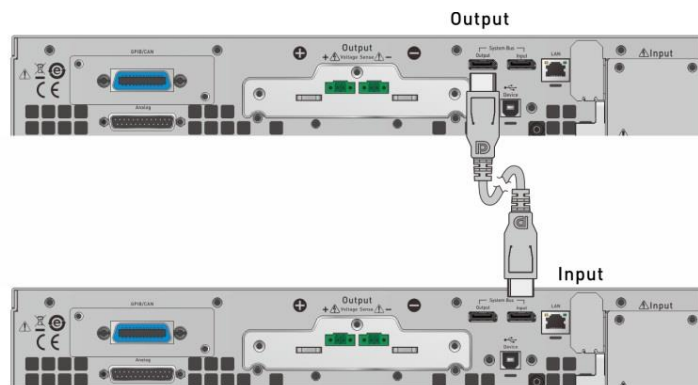
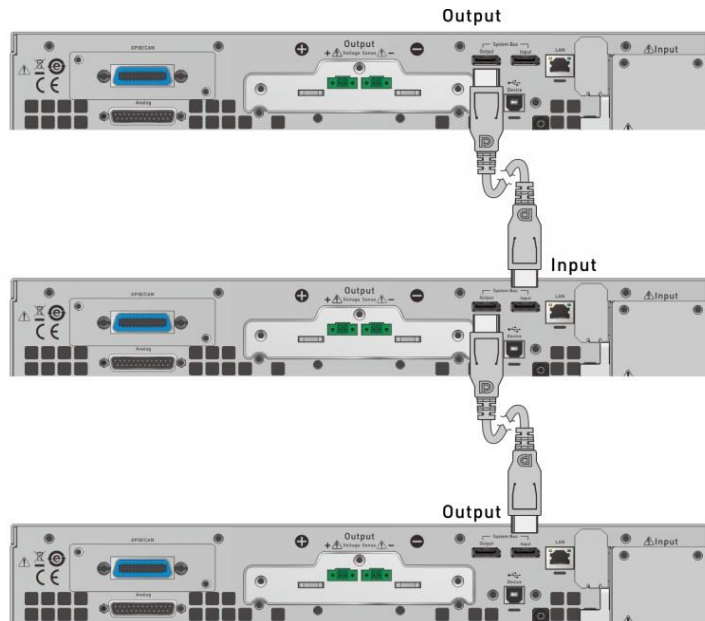

Figure 3-72
Figure 3-73
1. When 2 DC power supplies are connected in parallel, the DisplayPort connector on the rear panel must be connected as shown in Figure 3-72.
2. When 3 DC power supplies are connected in parallel for operation, the DisplayPort connector on the rear panel must be connected as shown in Figure 3-73. (A schematic diagram of 62000D.)
Each D-series supply has two DisplayPort female sockets. They need to be connected no matter if the connection is in series or parallel. There is no difference between the left and right connection ports but connected in series as shown in Figure 3-72 or Figure 3-73. The communication cable has a limit of 5 meters in length, do not exceed this limit to avoid unstable signals. The DisplayPort communication cable connected to the last DC power supply does not connect back to the first DC power supply.